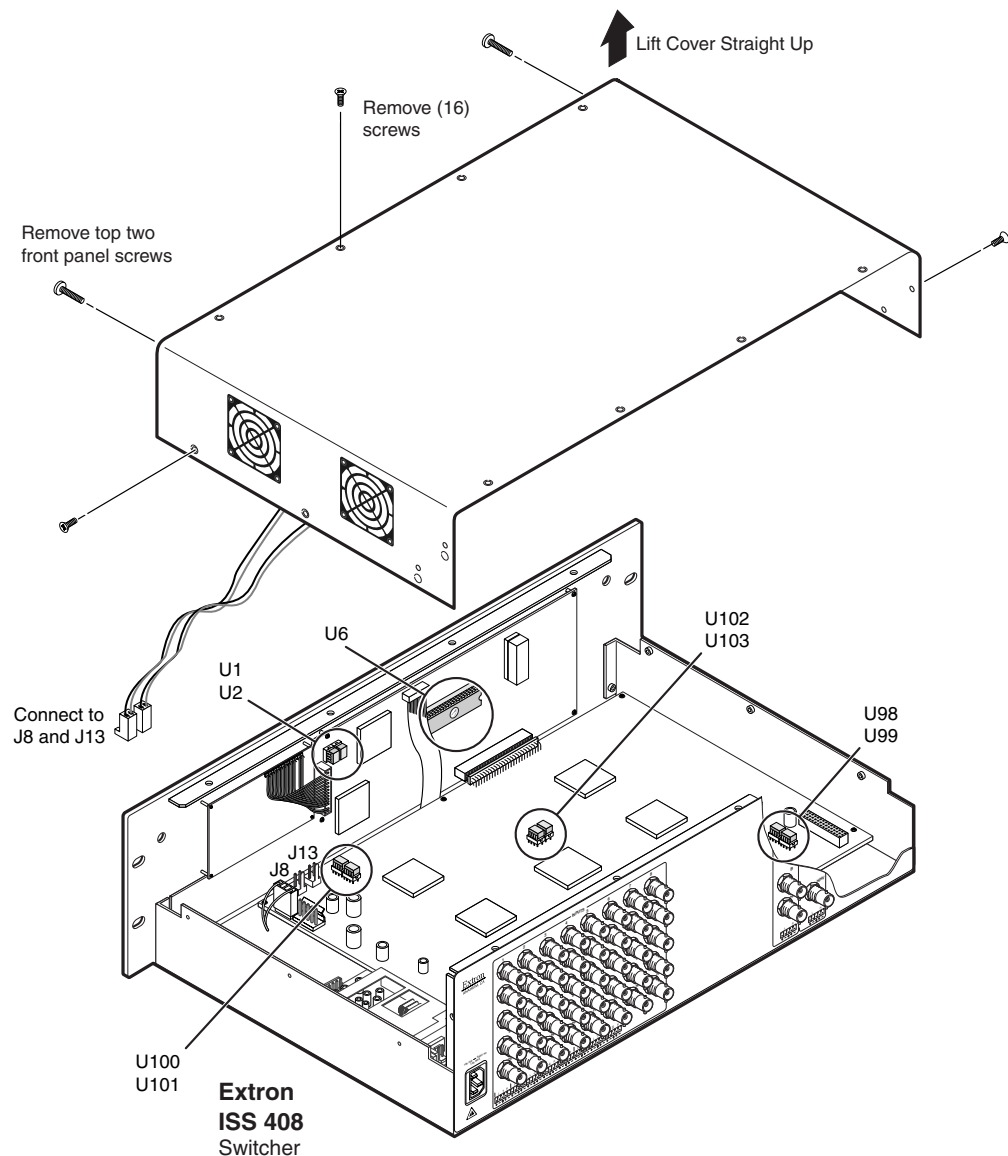

Figure 7-1 — Removing the ISS cover
3. Remove the 16 screws, 8 on the top and 4 on each side of the ISS cover (figure 7-1).
2. Locate the firmware chip(s) to be replaced on the main or front panel circuit board (figure 7-1).